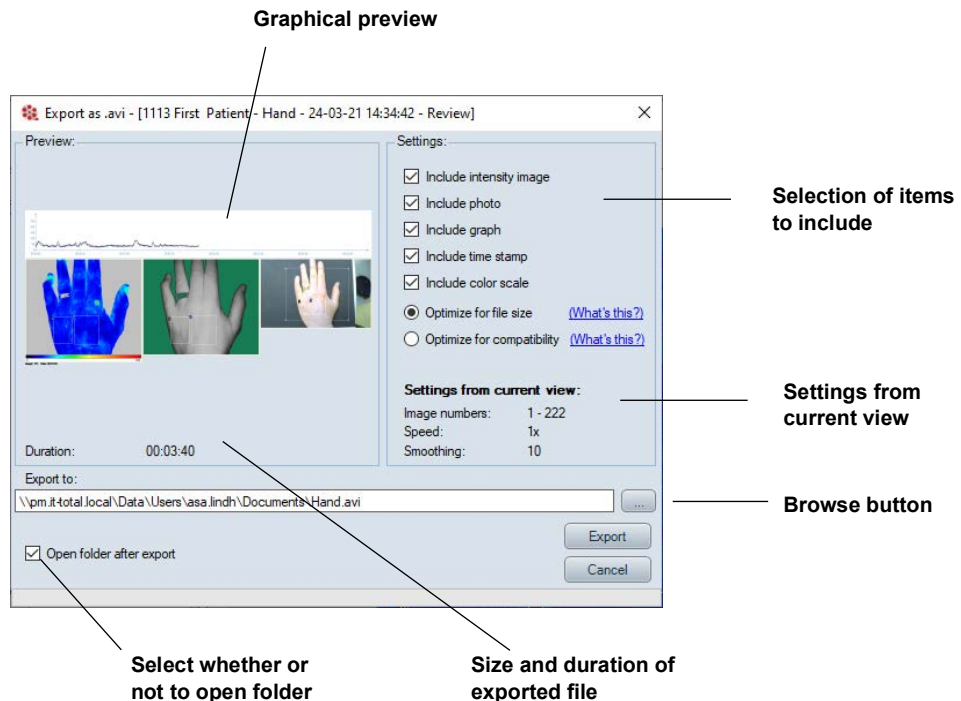

Figure 9-1 Export as AVI dialog.
5. Click the browse button, see Figure 9-1. Select a location and a name for the exported file and click *Save*.